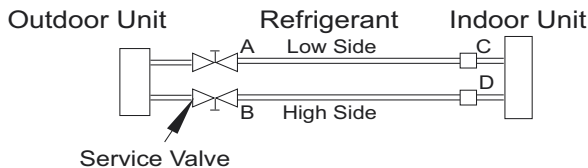

Fig. 45 —Service Valve
1. Completely tighten flare nuts A, B, C, D, connect the manifold gage charge hose to a charge port of the low side service valve (see Fig. 45).